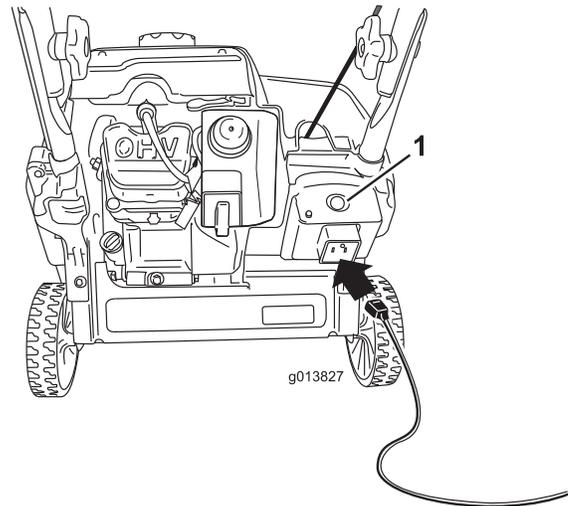
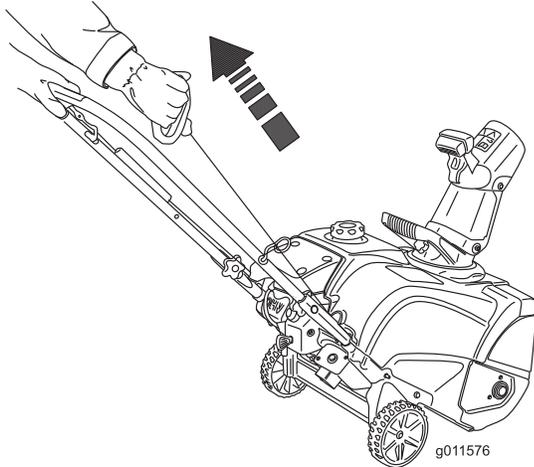

Figure 18
Figure 19
4. Connect an extension cord to a power source and the machine, and push the electric-start button (electric start only) as shown in Figure 18), or pull the recoil-start handle (Figure 19).